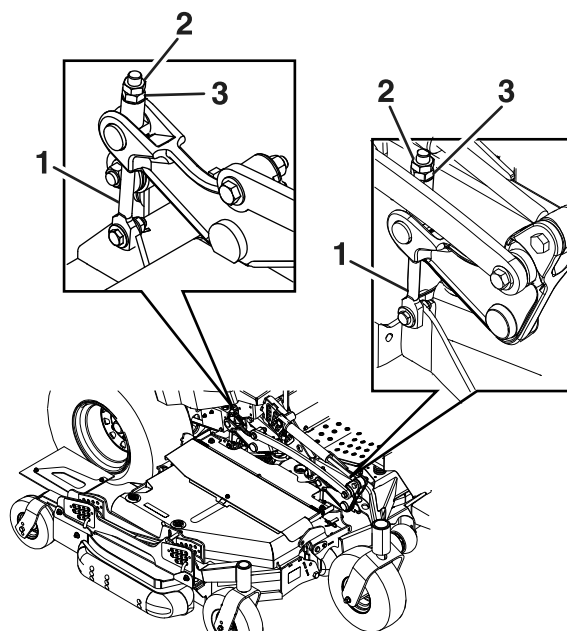

Figure 76
Loosen the jam nuts on the top of each deck adjuster. Fine-tune the adjuster on the front deck-lift assembly by turning it to get the correct height for the left and right, front blade tips on the center deck (Figure 76).
5. If the 4 deck adjusters (Figure 76) do not have enough adjustment to achieve the accurate height of cut with the desired rake, you can utilize the single-point adjustment to gain more adjustment.
6. To adjust the single-point system, first loosen the front and rear height-of-cut plate mounting bolts (Figure 76)